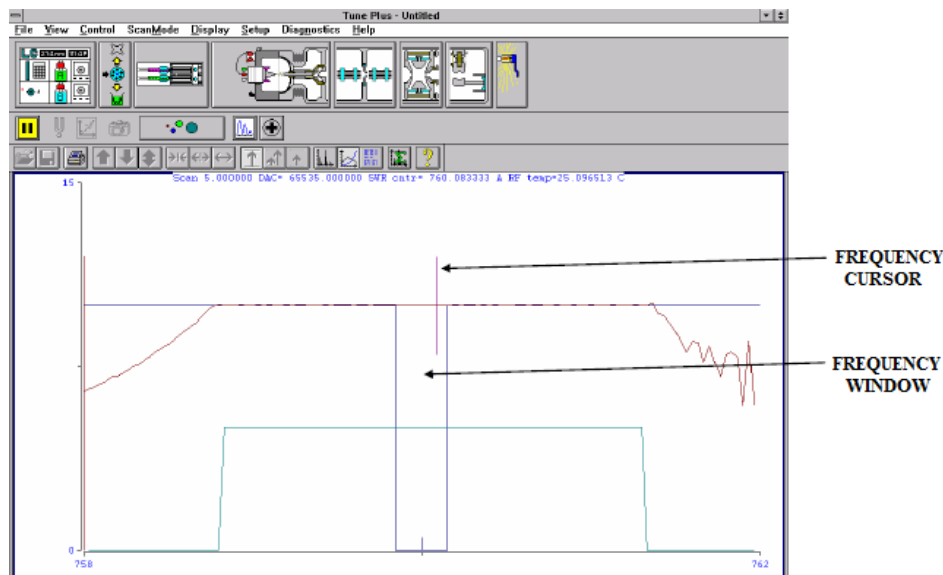

Figure 4. Graph view for ring electrode RF voltage tuning.
8.2.5.2.2. Place the electronics service switch (located on the power panel) in the Service (OFF) position. See Figure 4.
- 6.2.8.2. Click on Start button. The Graph view displays several tune functions, a frequency cursor and a frequency window as shown in Figure 4.